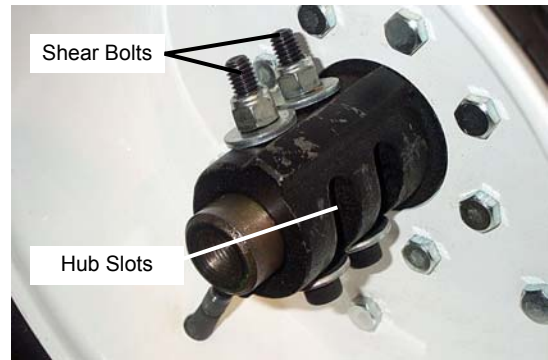

Figure 18
- If the old bolts are no longer attached, find the through hole and install the new bolts as shown in Figure 18.